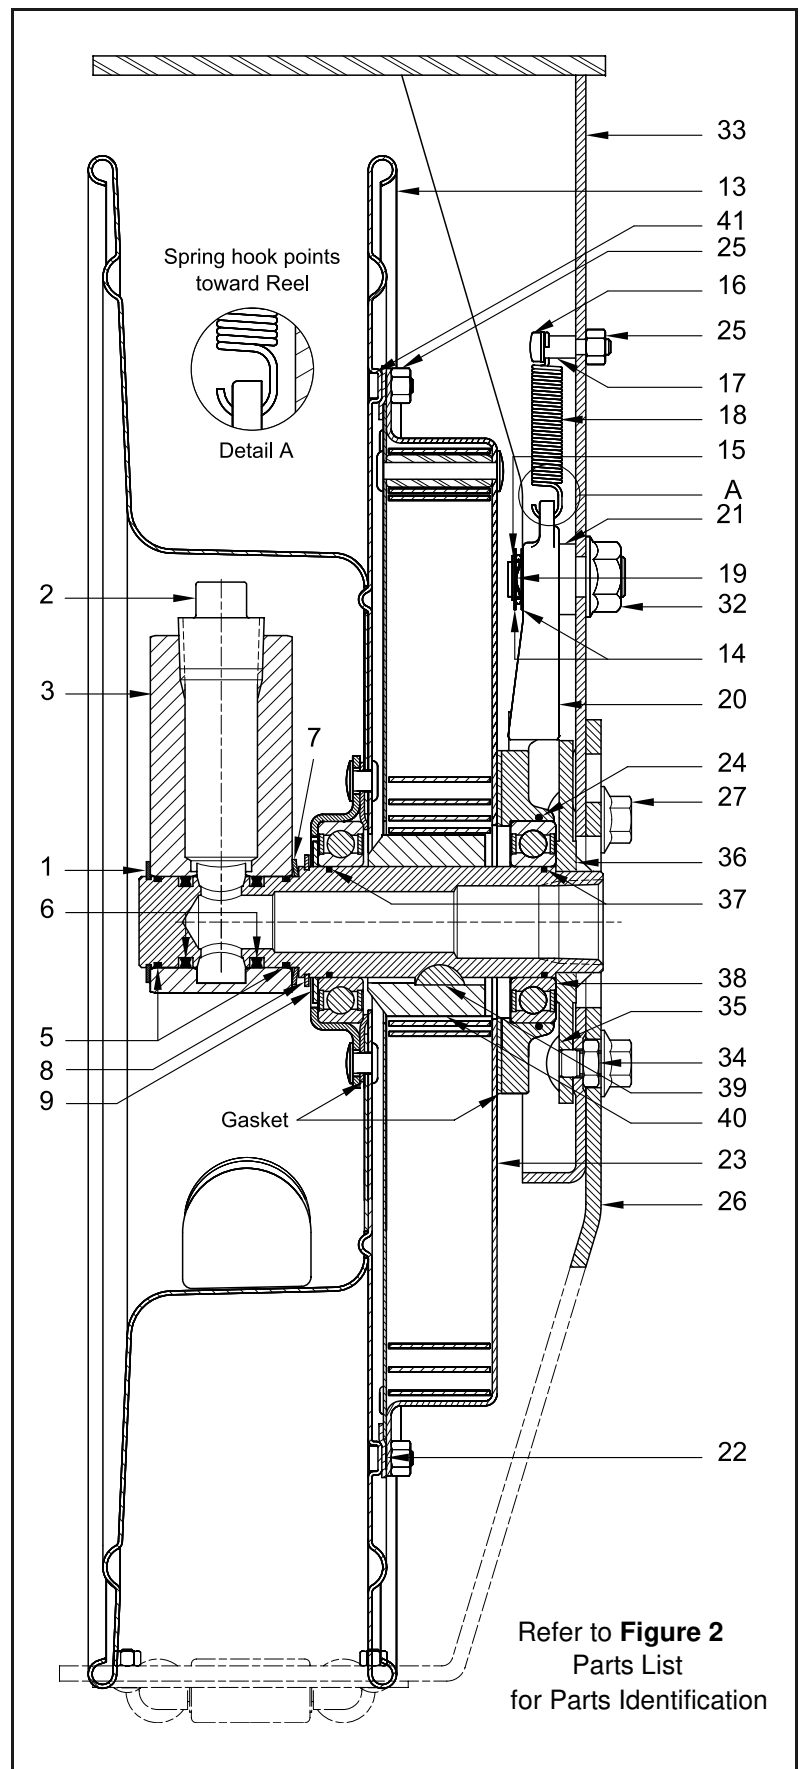

Figure 3 Severe-Duty Fuel Hose Reel - Section View
3. Screw Nut (32) onto the Pawl Shaft.
4. Install Pawl (20) [flat side first] onto the Pawl Shaft.
5. Install Washer (14), Wave Spring (19), and additional Washer (14) onto the Pawl Shaft.
6. Install Retaining Ring (15) onto the Pawl Shaft.
7. Install Pawl Spring (18) into the eye on the Pawl. See **Figure 3** for proper orientation.
8. Install Screw (16) into the large diameter end of Pawl Spring Sleeve (17).
10. Install Nut (25) onto the Screw.